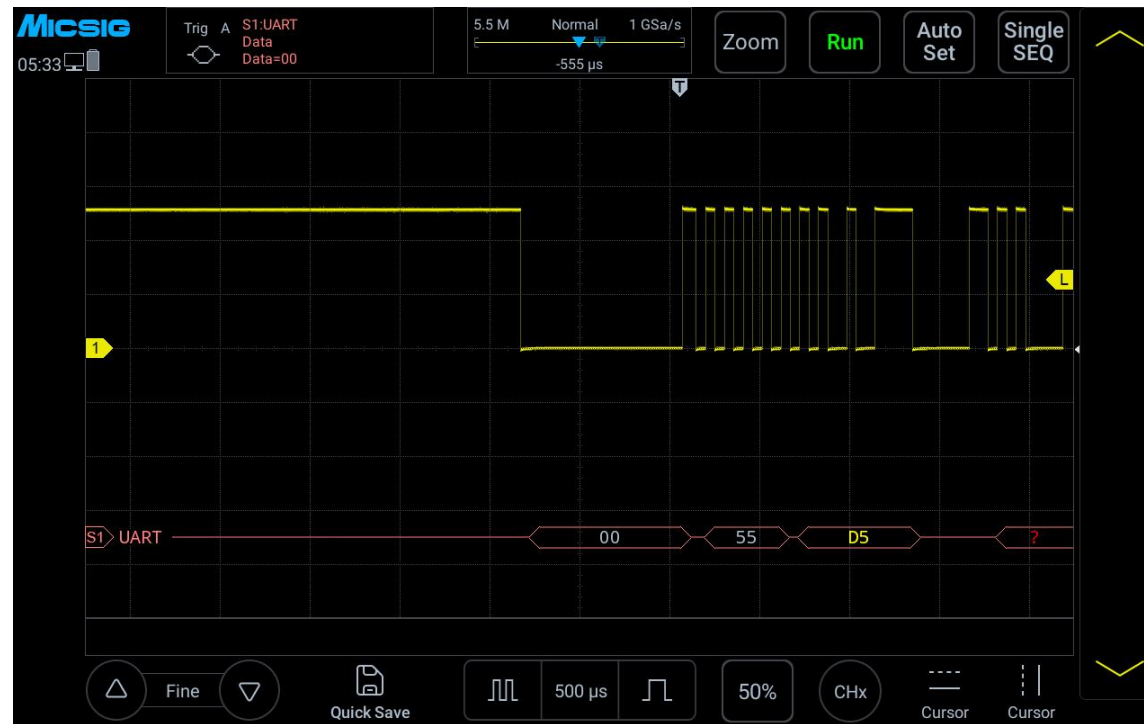

Figure 13-7 UART Decode Level Adjustment
- (1) Tap S1 to open the decode channel, and click S1 again to open the bus configuration menu;
- (2) Select the bus type as “UART”, click “Ch1”, “Idle High”, “Parity None”, “8bit”, “19.20kb/s”, display “hexadecimal”, then close menu;
- (3) Open the trigger mode settings menu, select "Data", set the condition to "=", manually enter the data content as 98, and press the "enter" key to confirm.
- (4) Adjusting the threshold level according to the amplitude level of signal may make the signal to be stably triggered. The UART trigger graphic interface is shown in Figure 13-7: